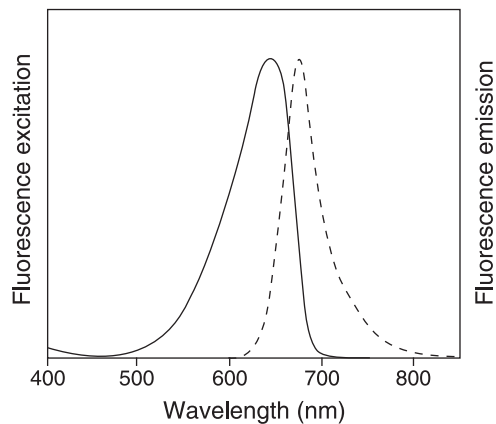

Figure 1. Excitation and emission maxima for the Quant-iT™ RNA BR reagent bound to RNA.
Approximate fluorescence excitation/emission maxima: 644/673 nm (see Figure 1, page 2)
- 1.5 Measure the fluorescence using a microplate reader (excitation/emission maxima are 644/673 nm, see Figure 1 on page 2). The fluorescence signal is stable for 3 hours at room temperature.